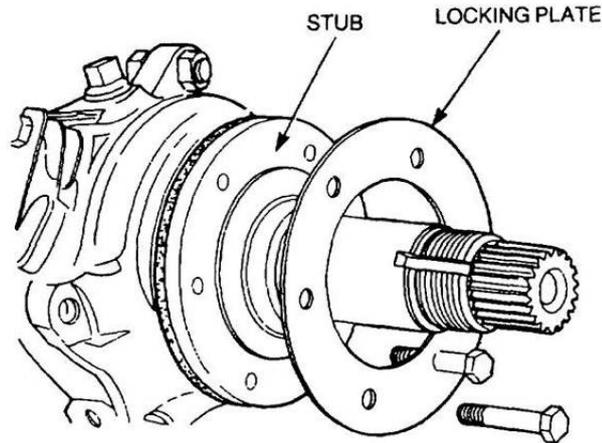

Figure 269 Removal of the Stub Axle
- d.** Remove the six bolts and locking plate retaining the hub stub axle to the swivel housing (Figure 269).